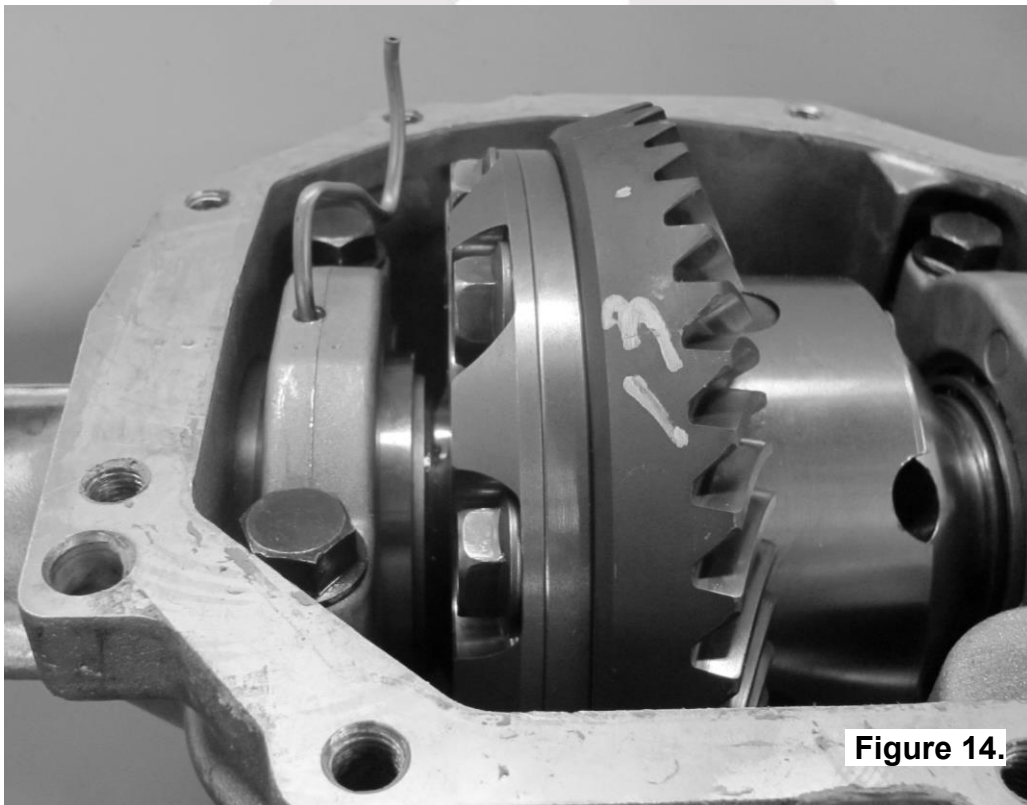

Figure 14.
- Without using sharp, jagged tools such as pliers (your hands are the best tool for this job), bend the seal housing tube downwards and then upwards as shown (Fig. 14. & 15.), so that it points out of the diff in line with the position of the bulkhead port in the cover plate. Assure that the tube adequately clears all moving parts of the differential assembly. Less than 10mm [3/8"] should be considered too little clearance.